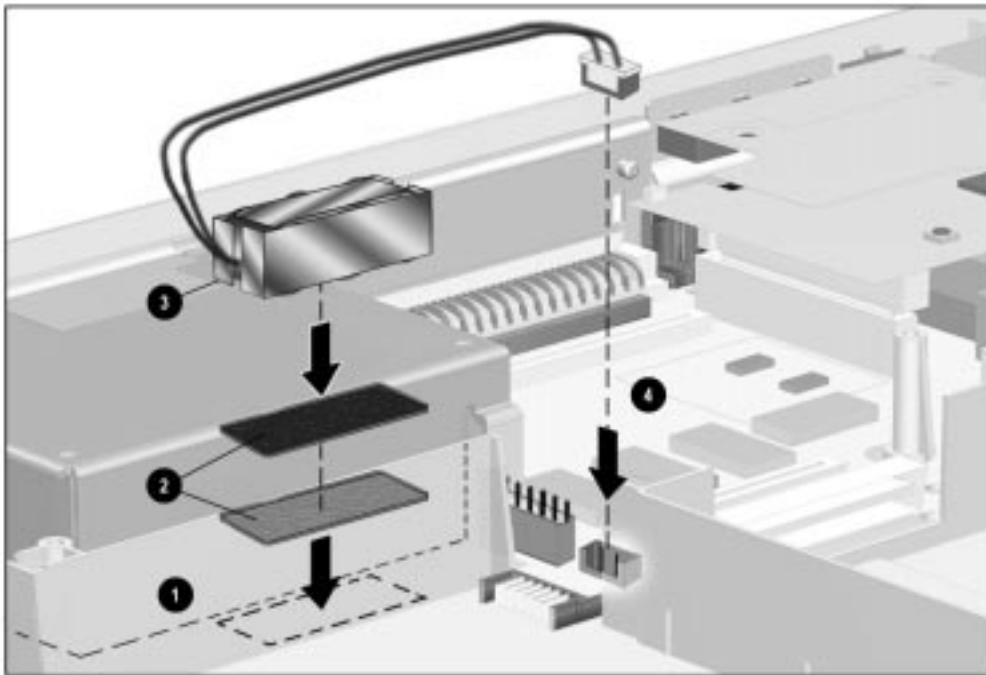

Figure 5-34. *Installing the Auxiliary Battery*
5. Remove the protective backing on one of the velcro strips and attach it to the box that appears on the system board in front of the power supply ❶ (Figure 5-34).
6. Use the hook and loop feature of the velcro strips to attach the second velcro strip to the velcro strip attached to the system board ❷. Remove the protective backing on the second velcro strip.
7. Attach the auxiliary battery and insulator ❸ to the top of the second velcro strip. Make sure the left edge of the insulator is aligned with the left edge of the velcro strips attached to the system board.
8. Route the auxiliary battery cable behind the battery and connect the cable to the connector on the system board ❹.